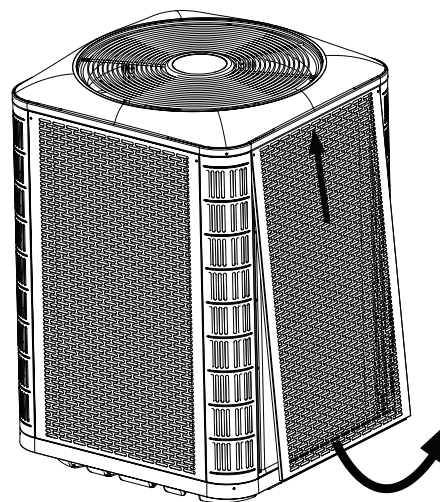
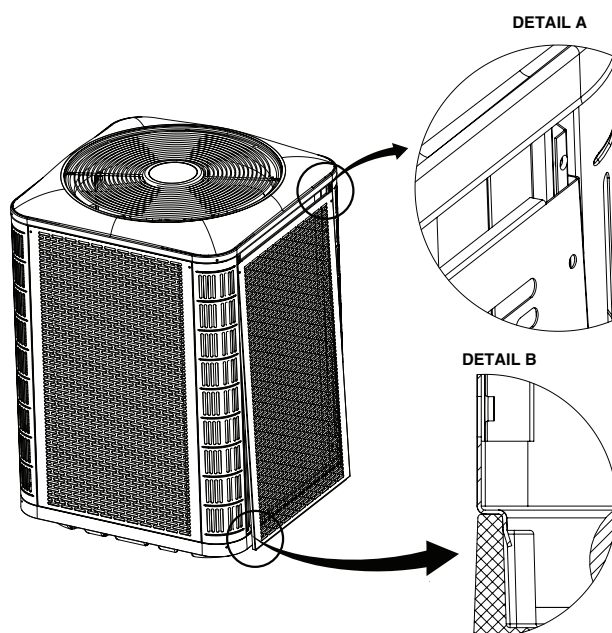

Figure 3. Panel Removal
Figure 4. Panel Installation
- To access the outdoor coil on units equipped with louvered panels, refer to Figure 3, \(page 9\) for panel removal and Figure 4, \(page 9\) for panel installation.
2. Slide the panel up towards the top pan in order to clear the bottom flange from the base pan. See Figure 3.
1. Insert the top corners of side panel flanges into the corner post channels as shown in Detail A in Figure 4.